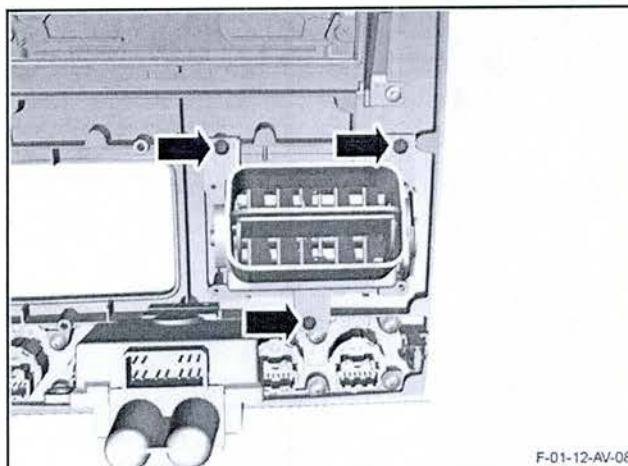

Figure 7
10. Remove the three Torx screws that attach the left side heater vent to the veneer bezel for the IP (refer to Figure 7).